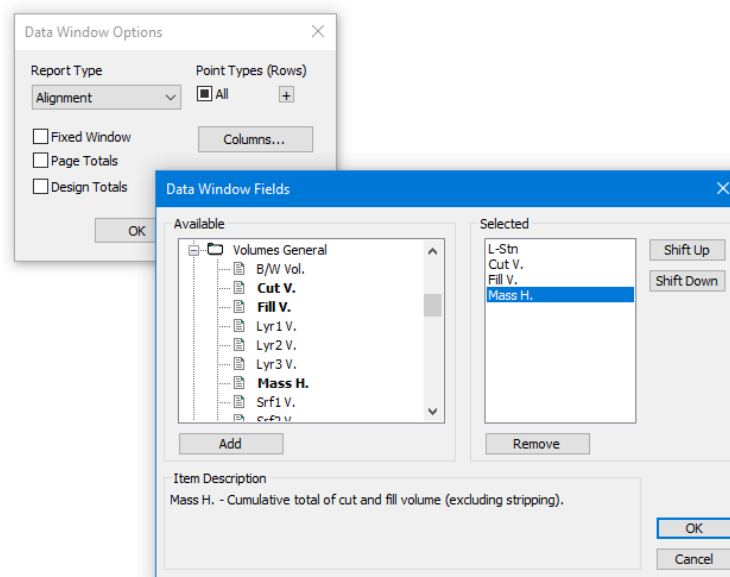

Figure 8-8: Adding Mass Haul Information to Data Window
- c. Add **Cut V.**, **Fill V.**, and **Mass H.** from the *Volumes* folder as seen in Figure 8-8 below.